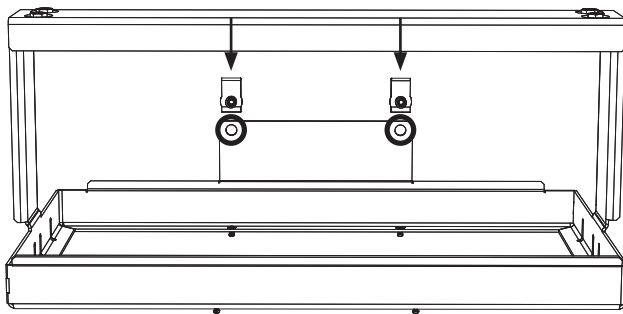

Fig. 2, Backing Plate Mounting Holes and Retainer Nuts
4. Close the battery slide tray and mark the back wall of the enclosure at the centers of the two holes on the rear plate of the BBSD (see Fig. 2). Open the tray then center punch and drill the back of the enclosure at the marked locations using the drill and the .404 (Y) drill bit.
5. Install the left and right batteries, then install the two retainer nuts on the rear plate of the BBSD over the mounting holes (See Fig. 2). Then install the middle battery.